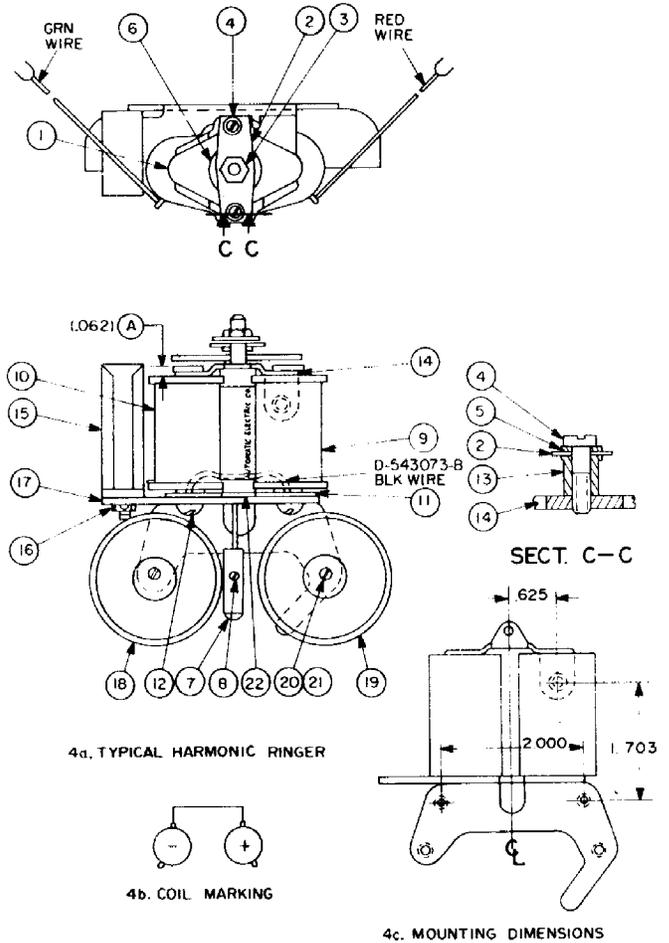
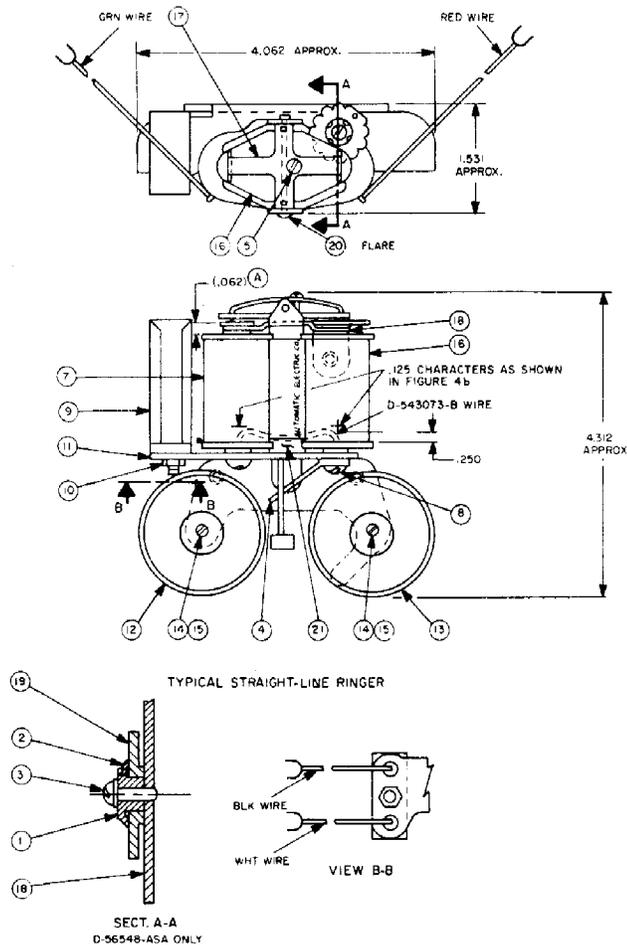

Figure 4. Type 45 Frequency Ringer.
Figure 5. Type 45 Straight-Line Ringer.
7.01 The Type 45 Ringer (Figures 4 and 5) is essentially composed of two gongs, two ringer coils, and the clapper mounted on a heelpiece. An extension of the ringer heelpiece serves as the capacitor mounting bracket. This ringer is used in the Type 80, 80E, 82, 85, 88-T, 90M, 95 Telephone Sets and the Type 33 Ringer Unit. This assembly can also be equipped to function as a straight-line, superimposed, or harmonic ringer. The Type 45 ringer is supplied with standard A coils. When superimposed ringing is desired, the ringer capacitor on the ringer is replaced by a cold cathode tube. Refer to Tables 11 and 12 for a complete component
7.03 To disassemble the Type 45 ringer (Figure 4 or 5) (part items referred to are called out in that order), proceed as follows:
- (a) Remove the two gong screws (items 20, 4) and lock washers (items 21, 15) located inside the gong shells to free each gong (items 18, 19 and 12, 13).
- (b) Remove the adjustable wheel (Figure 5) (item 19) from the coil core support by removing the adjusting wheel screw (item 3) and washer (item 2) from the center of the adjustable wheel.
- (c) Disengage the bias spring from the bias spring holder (item 4, 1). Remove the two coil mounting screws (items 12, 8) from the base of the ringer and gong mounting bracket.
- (d) Remove the front and rear magnet bars (items 22, 21) located between the coils (items 9, 10 and 6). Slide each coil outward and away from the coil support until the coil cores and coils are free.
7.04 To assemble the Type 45 Ringer (Figure 4 or 5), proceed as follows:
- (a) Elevate the armature (item 16, 9) and coil core support enough to slide each coil core into the U-shaped slot on each side of the coil core support.
- (b) Situate the two rectangular shaped magnets (items 22, 21) into the plastic inserts located at the top and bottom of each coil.
- (c) Install the left coil screw (item 12, 8) and secure. Place the bias adjuster (item 4, 1) over the threads of the right coil screw (item 12, 8) then insert and fasten. Position the bias spring in the bias adjuster notch so that the clapper weight (item 7, 13) will be centrally located between the gongs.
- (d) Position the adjustable wheel (item 19) (if equipped) over the extended flange of the coil core support at the rear of the right coil. Install and fasten the washer (item 2) and screw (item 3) at the top of the wheel.
- (e) Place the gongs (items 18, 19, 12, 13) over the mounting hole on the ringer and gong mounting bracket. Insert and secure the two gong mounting